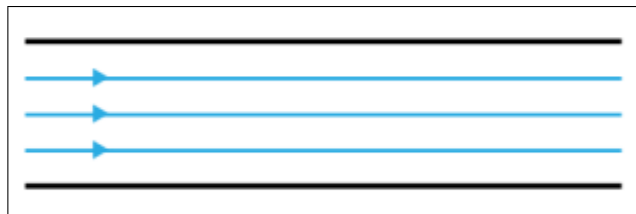

Figure 5.2: Laminar flow.
5.2.1 Laminar flow (Figure 5.2)